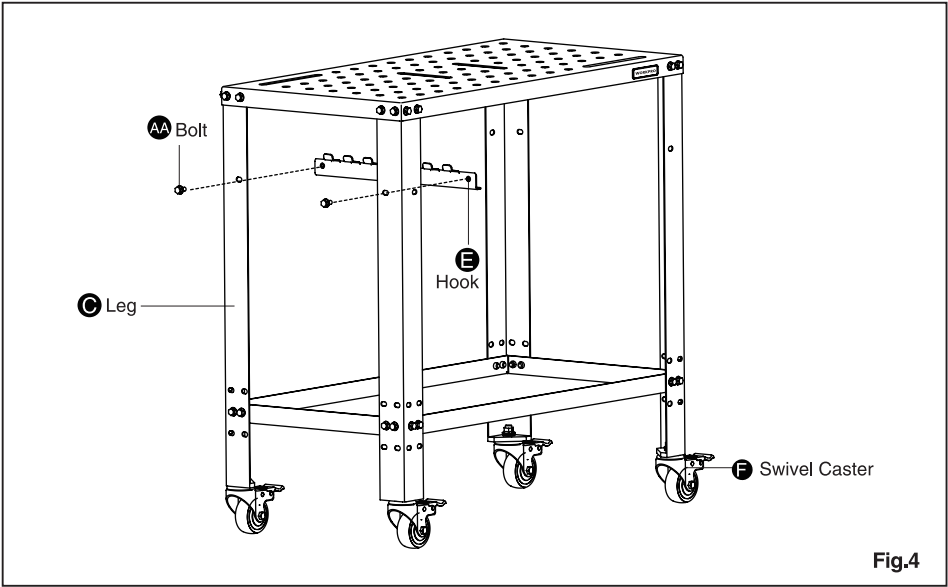

Fig.4
- Attach the hook (E) to inside corners of legs (C) with two M8x15mm hexagonal head bolts (AA), and finger tighten to desired tightness (Fig. 4).